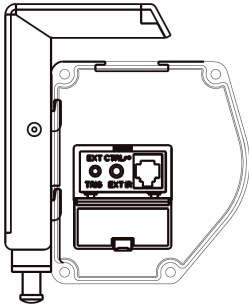

Fig. 16
- Now attach the mounting brackets with the ceiling hangers to the screen, making sure that the grooves of the housing match the mounting brackets. Tighten the locking screws, to secure the enclosure in the brackets. (Fig. 16 and 17)